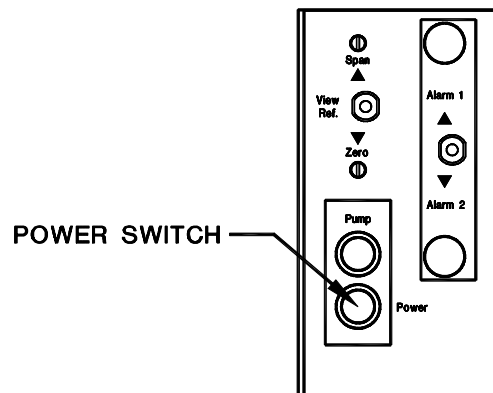

Figure 4: Power Switch
5. Turn the analyzer on using the power switch. See Figure 4